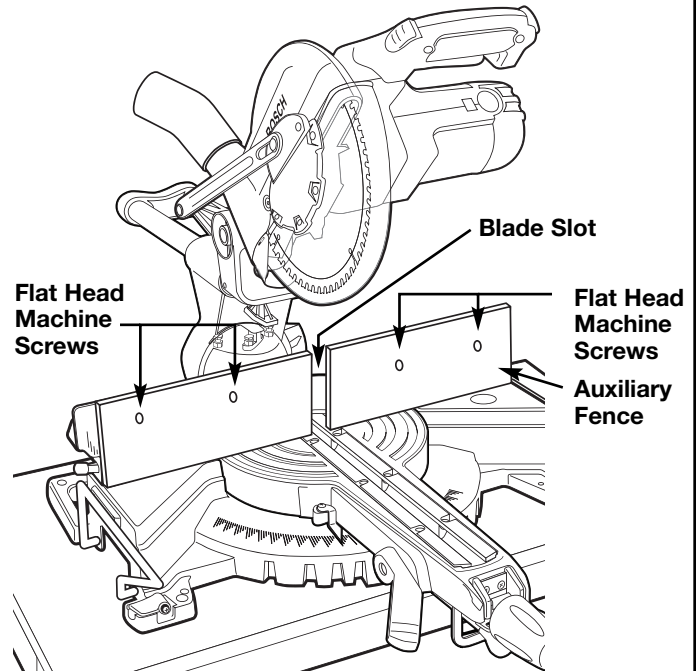

Figure 21. Auxiliary Fence
1. Place a piece of wood against the miter saw fence (Figure 21). (Wood can have a maximum height of 3-1/2". Check that head assembly does not interfere with auxiliary fence.)
4. Attach the auxiliary fence using two at least (2) 1/4" flat head machine screws per side. Make a full depth cut to create the blade slot. Check for interference between the auxiliary fence and the lower blade guard. Make adjustments as necessary.